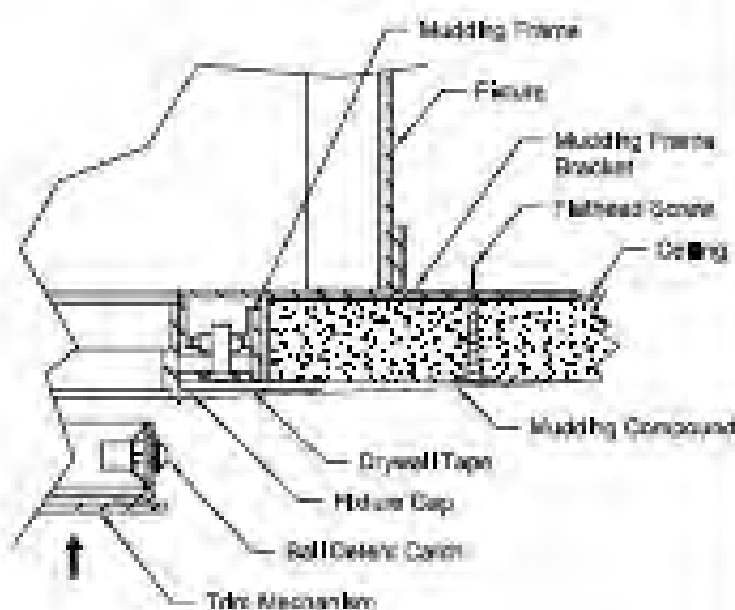

Figure 3
9. Install Ceiling drywall up to Mudding Frame on Fixture so that the two (2) Mudding Frame Brackets on Fixture contact inside of Ceiling. See Fig. 3.
10. Realign Fixture to Ceiling with one (1) Flathead Screw through each of two (2) Mudding Frame Brackets. See Fig. 3.
11. Apply Drywall Tape and Mudding Compound to Mudding Frame perimeter Mudding Frame, Flathead Screws, Fixture Gap and surrounding area. Feather out Mudding Compound from Mudding Frame opening to surrounding ceiling area to produce a smooth, flat finish. See Fig. 3.
2. Install Trim Mechanism into Fixture by pressing firmly to seat Ball Detent Catches. See Fig. 3.